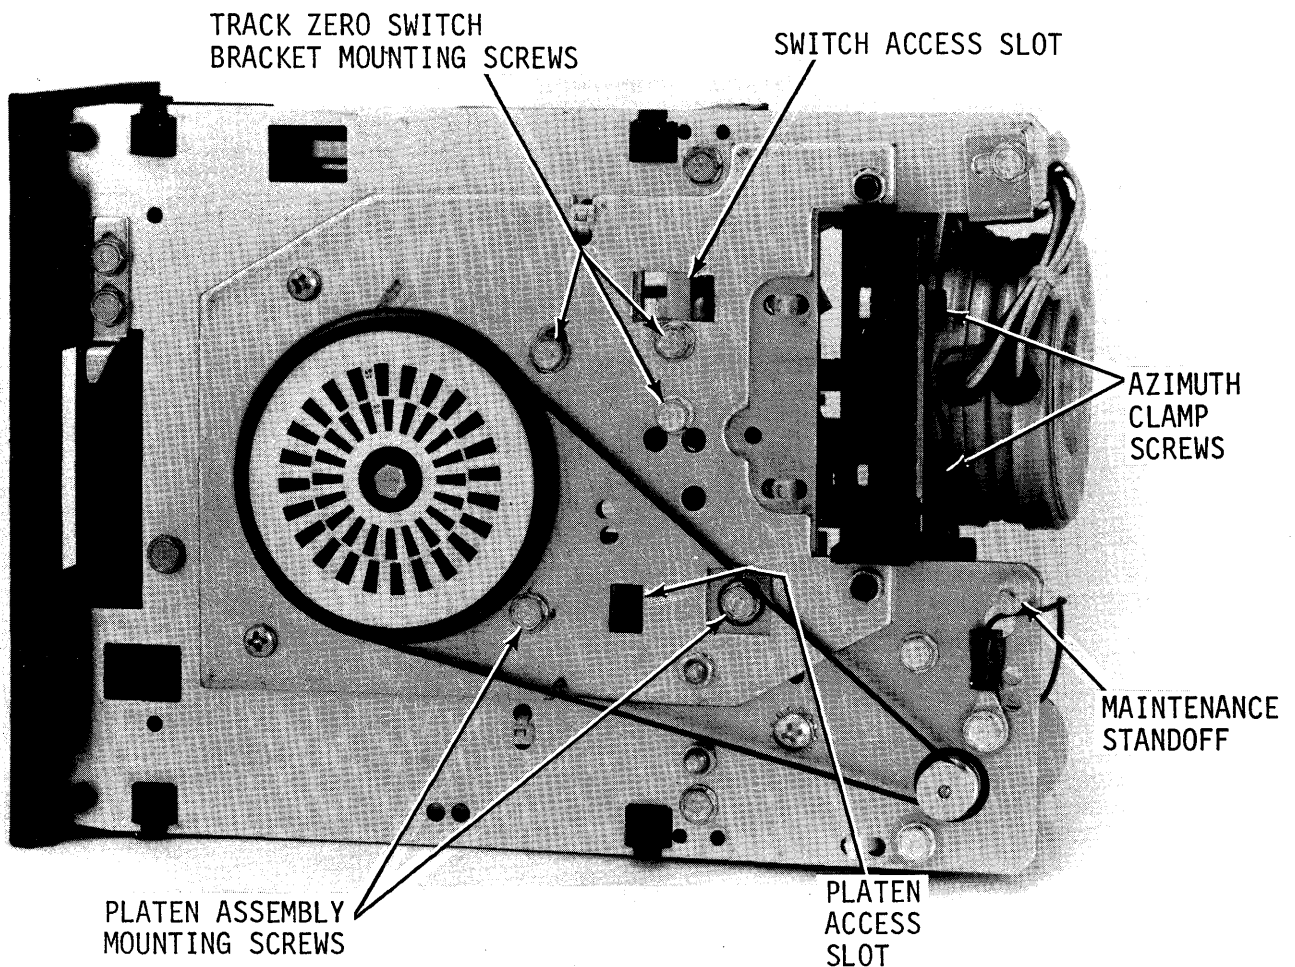

Figure 4-6. Drive Adjustment Access
- f. Loosen two platen assembly mounting screws (see figure 4-6), and temporarily move the platen (use a screwdriver as a wedge between the tongue on the platen and slots in the chassis) until the index-to-burst time after reclamping the platen is 300 μ sec. Too much force can damage the polycarbonate platen material.
- g. Loosen two positioner azimuth clamp screws (visible from below at the rear of the step motor, see figures 4-6 and 4-8), that hold the positioner spring plate to the mounting block.
- a. Turn the drive on its side. Loosen the two platen assembly mounting screws (see figure 4-6) and move the platen (use a screwdriver as a wedge between the tongue on the platen and slots in the chassis) until the index-to-burst time is now the optimum 200 ± 30 μ sec after reclamping the platen.
- g. Slightly loosen the three track zero switch mounting screws (see figure 4-6). Use a screwdriver as a wedge through the track zero switch access slot to move the switch bracket backward or forward to line up the transitions referred to in step f above. Tighten the track zero switch mounting screws.